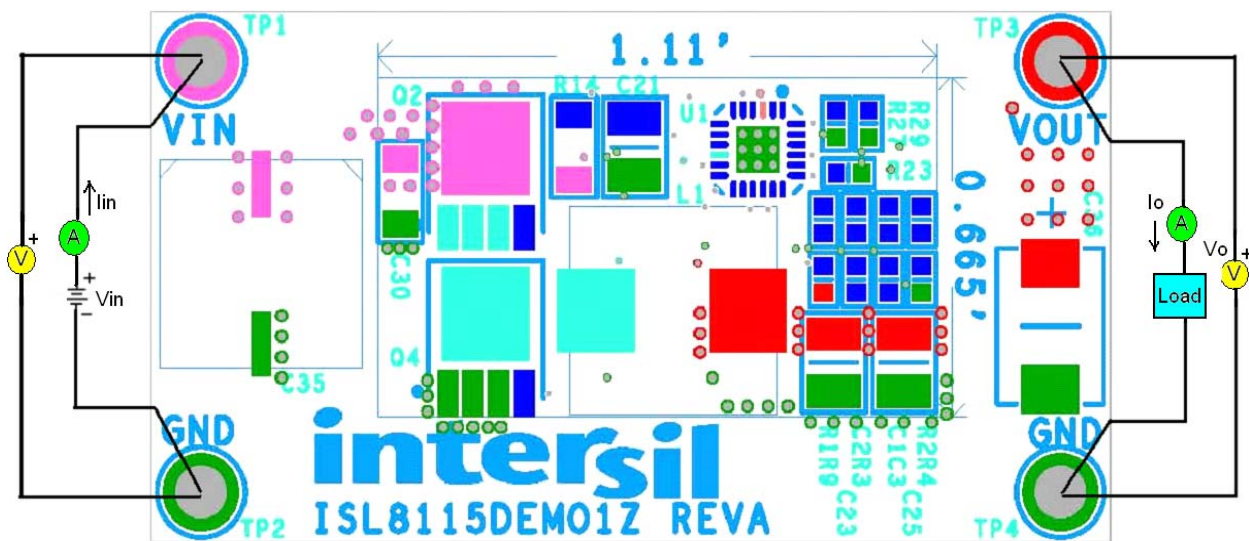

FIGURE 2. ISL8115DEMO1Z TEST SETUP
- 1. Ensure that the demonstration board is correctly connected to the power supply and the electronic load prior to applying any power. Refer to Figure 2 for proper setup.